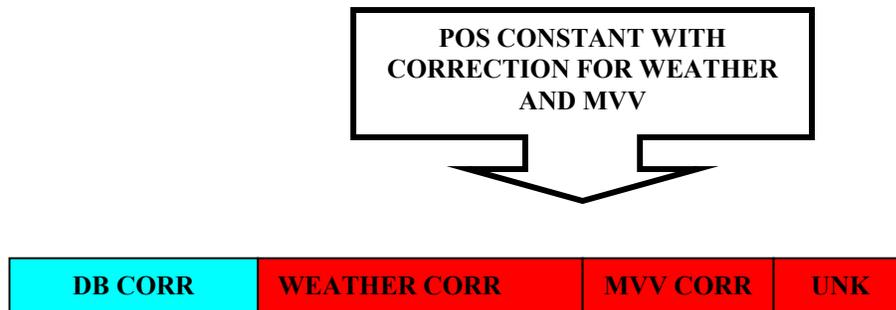
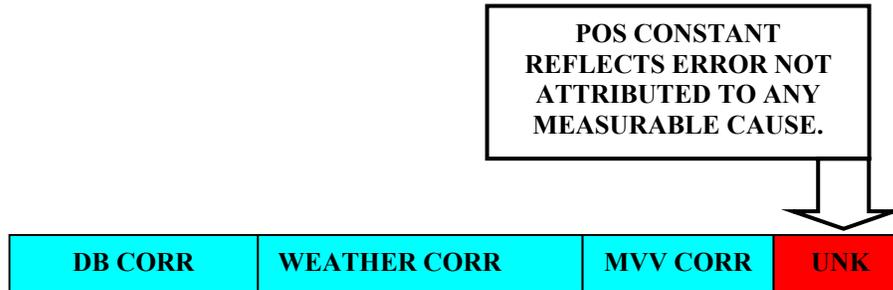

Figure 6-3.
Figure 6-4.
- i. Conduct new registrations to determine corrections for the new prevailing conditions. This action is required because the position constant has not been isolated. For example, in figure 6-3, the correction for weather and MVV, as well as that quantity of correction determined in the registration and not able to be attributed to any measurable effect are all part of the registration correction.
- ii. Acquire measurements of the non-standard conditions that prevailed at the time of the registration. These measurements are usually computer meteorological message measured during or close to the time of the registration and MVV data for the ammunition registered. When these measurements are made and the data stored in AFATDS, the registration is recomputed. The result is to reduce the registration correction to a true position constant composed of correction for errors that cannot be attributed to any specific cause. Figure 6-4 reflects the condition of the registration correction from figure 6-3 after concurrent met procedure has been carried out.